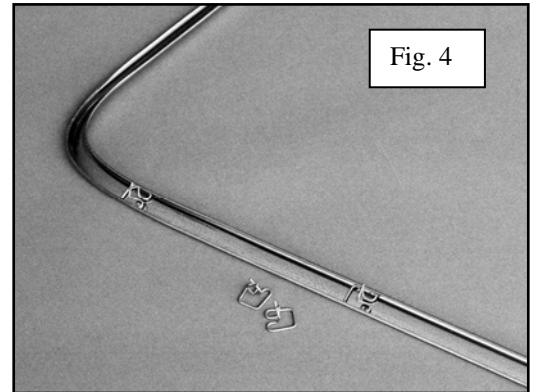

Fig. 4
2. *Wireformed Clip* This type clip is made from spring wire. It slides into the back side of the molding and has two prongs that snap into a hole in the body. It must be slid into the molding from one end or from a spot where the back side of the moldings have been trimmed to provide a clearance for sliding the clip into the molding. See figure 4. These clips are designed to fit a specific molding and to fasten into a specific size hole in the body. Be sure the hole drilled in the body is the correct size. As with all “push in” type clips, use care to press them in to prevent damage to the molding. A flat paint stirring stick or similar tool may be used to install the molding. Do not use a mallet or the palm of your hand directly on the molding.